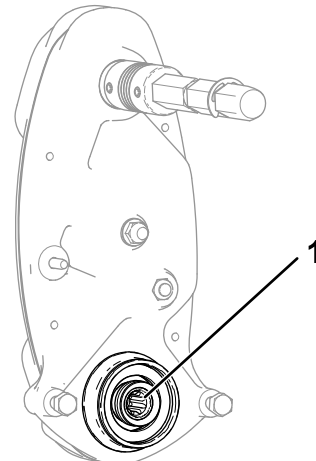

Figure 14
- Check the inside of the reel driveshaft (Figure 14) for any remaining grease.